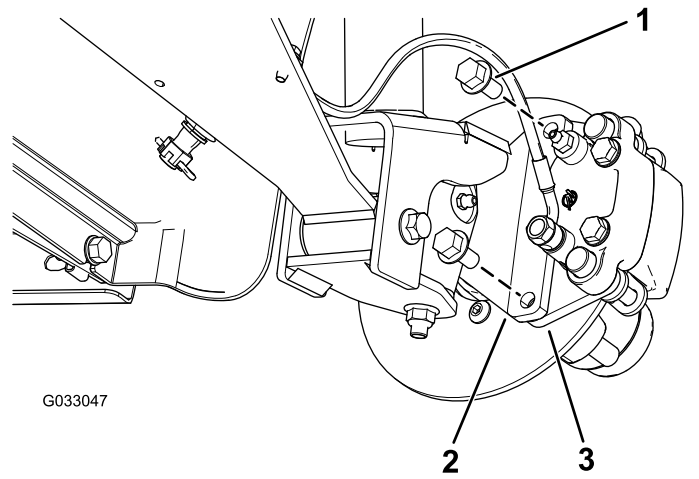
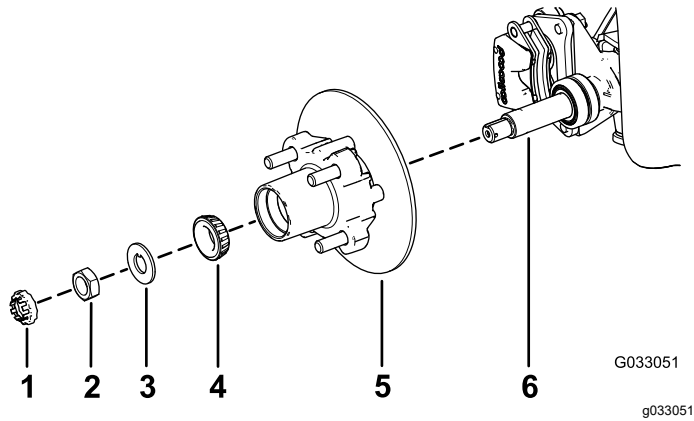

Figure 26
Figure 30
3. Remove the flange-head bolts (3/8 x 3/4 inch) that secure the bracket for the brake assembly to the spindle and separate the brake from the spindle (Figure 26).
1. Apply a light coat of the specified grease to the spindle (Figure 30).
2. Assemble the hub and rotor onto the spindle with the rotor inboard (Figure 30).
3. Assemble the outboard bearing onto the spindle and seat the bearing to the outboard race (Figure 30).
4. Assemble the tab washer onto the spindle (Figure 30).
5. Thread the spindle nut onto the spindle and tighten the nut to 15 N·m (11 ft-lb), while rotating the hub to seat the bearing (Figure 30).
2. Align the brake pads to either side of the rotor (Figure 26) and the holes in the caliper bracket with the holes in the brake mount of the spindle frame (Figure 30).
3. Secure the caliper bracket to the spindle frame (Figure 26) using the 2 flange-head bolts (3/8 x 3/4 inch).